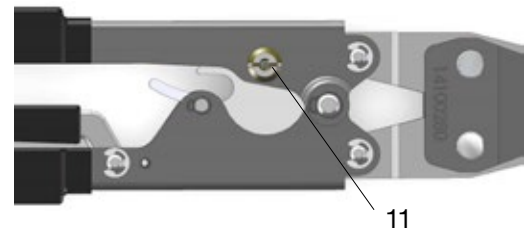

Fig. 11: Adjustment nut
1. Using a straight blade screw driver, loosen adjustment nut (Fig. 11).